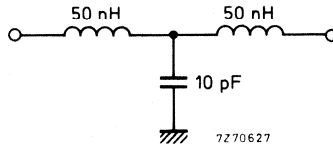

Fig. 11.
- A low-pass filter (Fig. 11) with a cut-off frequency of about 300 MHz has to be inserted between the v. h. f. aerial terminal of the tuner and the aerial terminal of the receiver. Television receivers with a common v. h. f. /u. h. f. connector in combination with a low-pass/high-pass splitter do not need this additional filter.